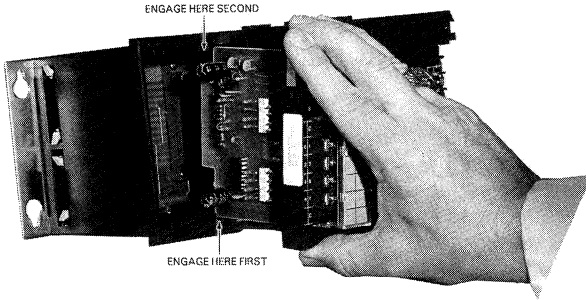

Figure 3.6 MODULE INSERTION INTO EXPANSION RACK
19. Tilt the module approximately 10° as shown in Figure 3.6. Insert the bottom of the large printed circuit board into the bottom card slot in the rack.